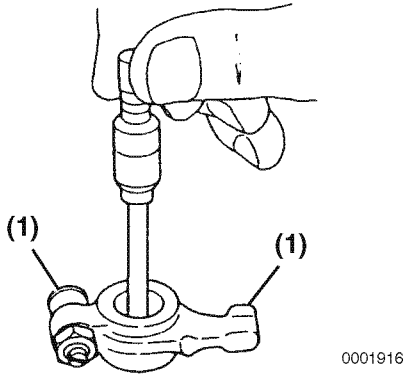

Figure 6-12
Use a telescoping gauge and micrometer to measure the inside diameter of all the rocker arm support brackets and the rocker arms (Figure 6-12). Record the measurements. See *Rocker Arm and Shaft* on page 6-7 for the service limit.
Inspect contact areas (Figure 6-12, (1)) for excessive wear or damage.